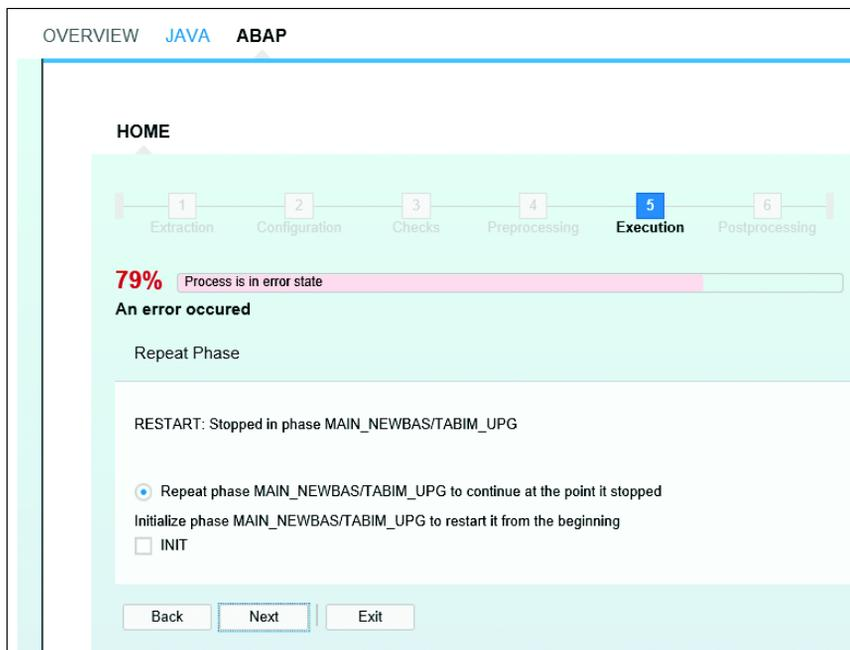

Figure 78 Restart SUM and Retry the Task
16. Restart the SUM process and select NEXT to retry the task (see Figure 78).